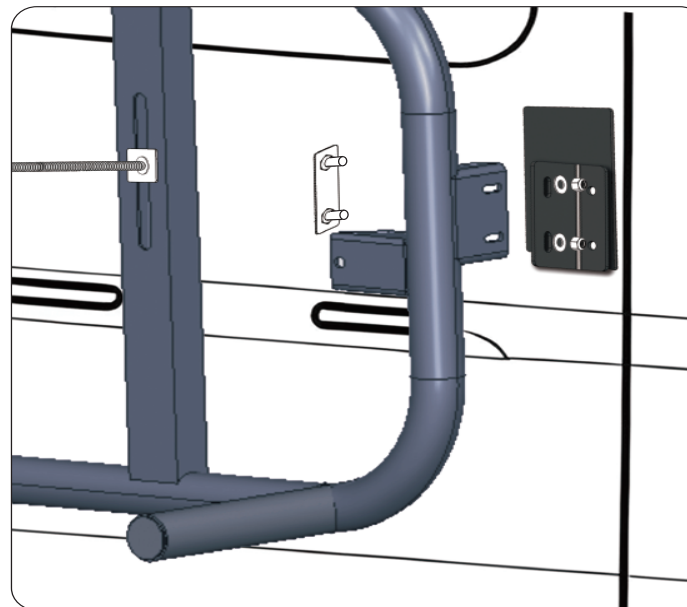

FIG:19
7.3 **The Third mount:** Thread the Double Bolt Plate through the Drill Through Bracket and the two holes on the Tire Carrier/Ladder Rack. Then using two M8 nuts and washers, lightly tighten to aid the alignment (**FIG 19**).